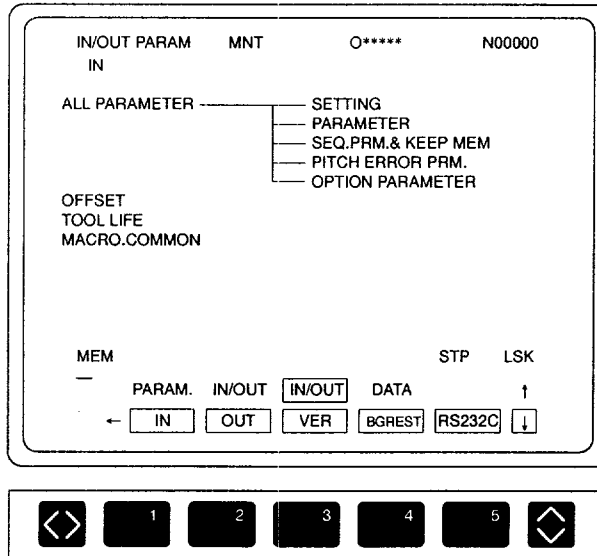

Fig. 8.6 Parameter Input Screen
(3) Selection and Operation of the Function
- ① Press the appropriate function soft-key corresponding to the required operation. The screen is displayed corresponding to the pressed function soft-key. Fig. 8.6 shows the parameter input screen.
- ② Move the cursor to the parameter which should be input, output, or verified and press the [WR] key. The message "INPUT (OUTPUT/VERIFY) OK?" is displayed.